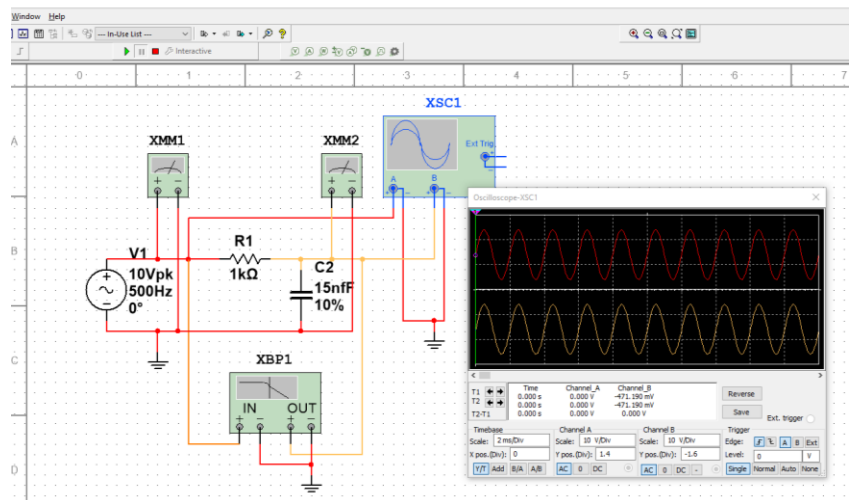

Figure 6: Multisim Layout of My RC Low pass Filter Circuit
- Figure 6 shows my RC test setup in the simulator.
When the dB is negative, it means the output is less than the input signal. This cut-off frequency defines the boundary between frequencies passed and frequencies blocked. The frequencies beyond the cut-off are attenuated significantly (Figure 6). In a single pole/stage RC filter, the output voltage decreases at about 20dB/decade, where a decade represents a 10x increase in frequency. For example, Table 1 shows that at 10KHz, our output voltage is 7.28V and at 100KHz it is 1.06V which is -19.5dB. Notice the roll off is linear past the cutoff frequency.